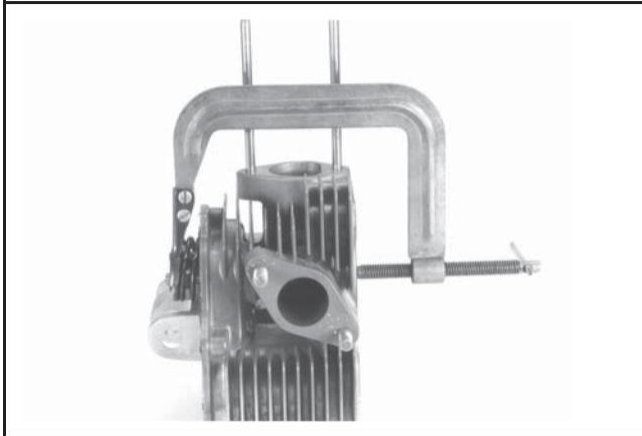

Figure 9-28. Removing Valves with Valve Spring Compressor.
- a. Compress the valve springs using a valve spring compressor. See Figure 9-28.